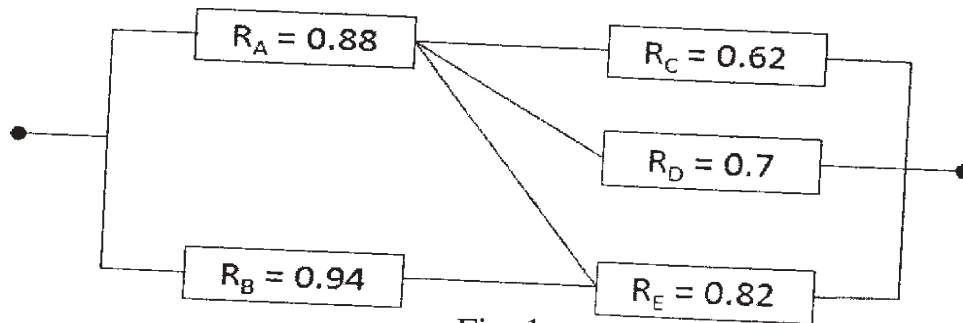

Fig. 1
- b) For the system shown in Fig.1, find the reliability of the system using conditional probability approach. [6]